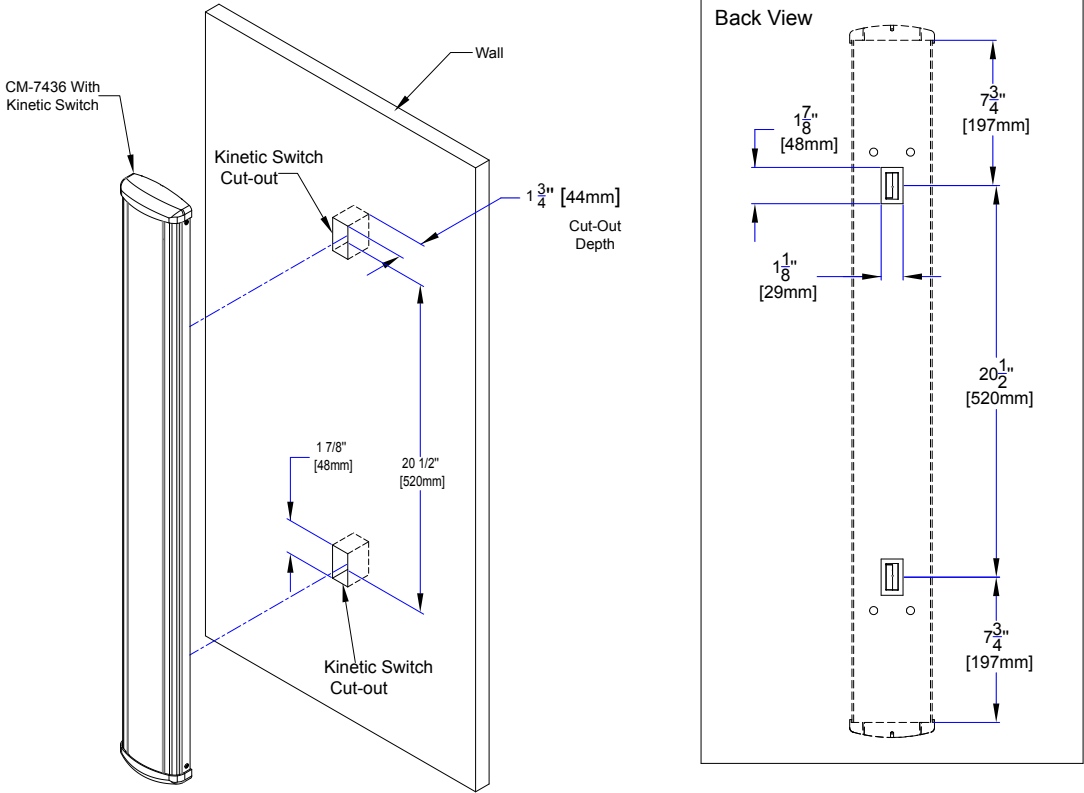

Figure 4.5 Kinetic Wall Mounting
c. **If using Kinetic RF:** The CM-7436K uses 2 Kinetic RF switches installed near the top and the bottom of the actuator. When pairing this switch with a Kinetic receiver, you must pair both the top and the bottom switches. The pairing of Camden Kinetic transmitters is detailed in the CM-RX90v2 installation manual. (See Figure 4.5)